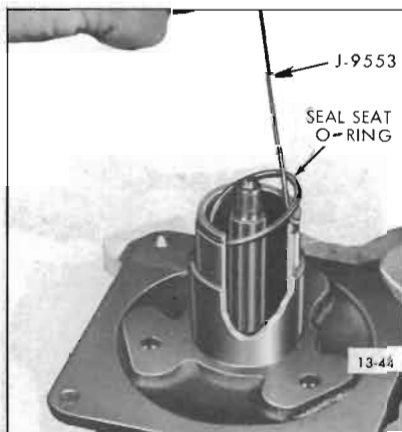

Figure 13-44—Removing Seal Seat O-Ring
8. Take out seal seat "O" ring (see Figure 13-44) from inside hub of front head using "O" ring Remover (J-9553).